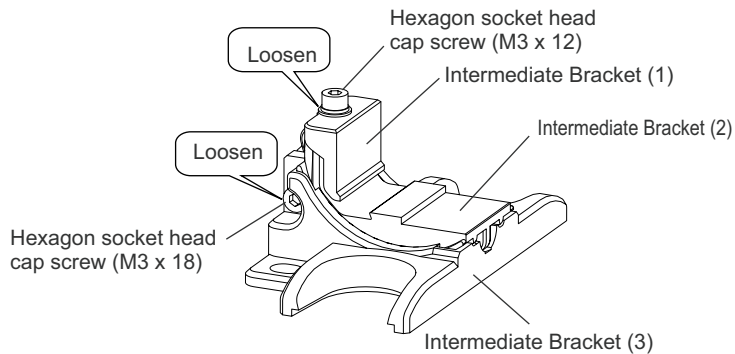

Figure 24
1. Loosen the hexagon socket head cap screws (M3 x 18) of Intermediate Bracket (3) and change the direction of Intermediate Bracket (2) according to its mounting direction. (Figure 24 and 25)